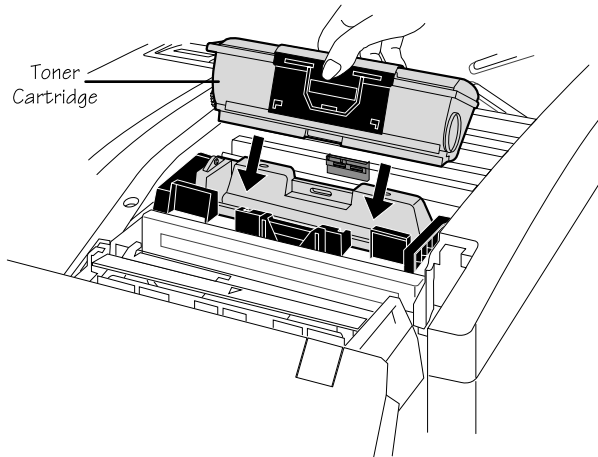

Fig. 2.11 *Align Cartridges (rear view)*
8. Hold and squeeze the toner cartridge across the center (fig. 2.11), and align it with the developer cartridge of the same color. Make sure the pins on the back side of the toner cartridge line up with the notches on the developer cartridge.
9. Lower the toner cartridge until it fits firmly onto the notches on the developer cartridge (fig. 2.11).